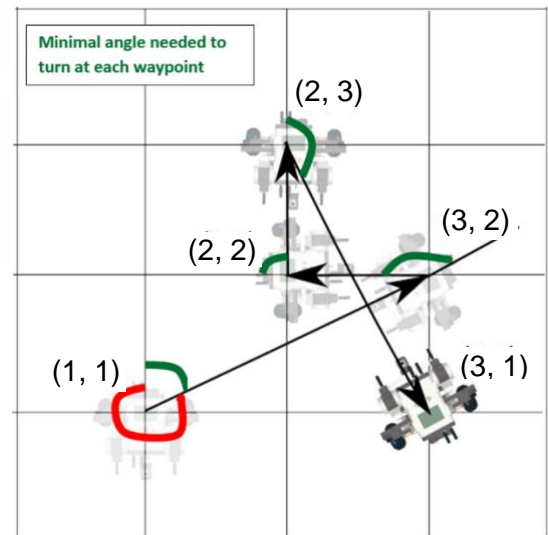

Figure 1: Example robot path 1 (labelled)
Your robot will be placed in a corner of the playing field with walls, exactly as in the previous lab. Once again, your robot should localize and navigate to (1, 1). From that point on the 4x4 tile grid, the robot must travel through 5 waypoints. The TA will specify the waypoints during the demo (see **FAQ**). You will add them to your code and upload your solution to the robot. An example is shown below in **Figure 1** using a **minimal angle** needed to turn at each waypoint. A **maximal angle turn** must be avoided (see **FAQ**).
- **10 points** are given for turning using a **minimal angle** (marked in green in **Figure 1**) at all the waypoints. **0 points** are given if the robot turns using a **maximal angle** (marked in red in **Figure 1**) at any of the 5 waypoints.
Referring to the (1, 1) waypoint in **Figure 1**, its **minimal turning angle** is approximately **60° clockwise**, as opposed to a **maximal turning angle** of **300° counterclockwise**.